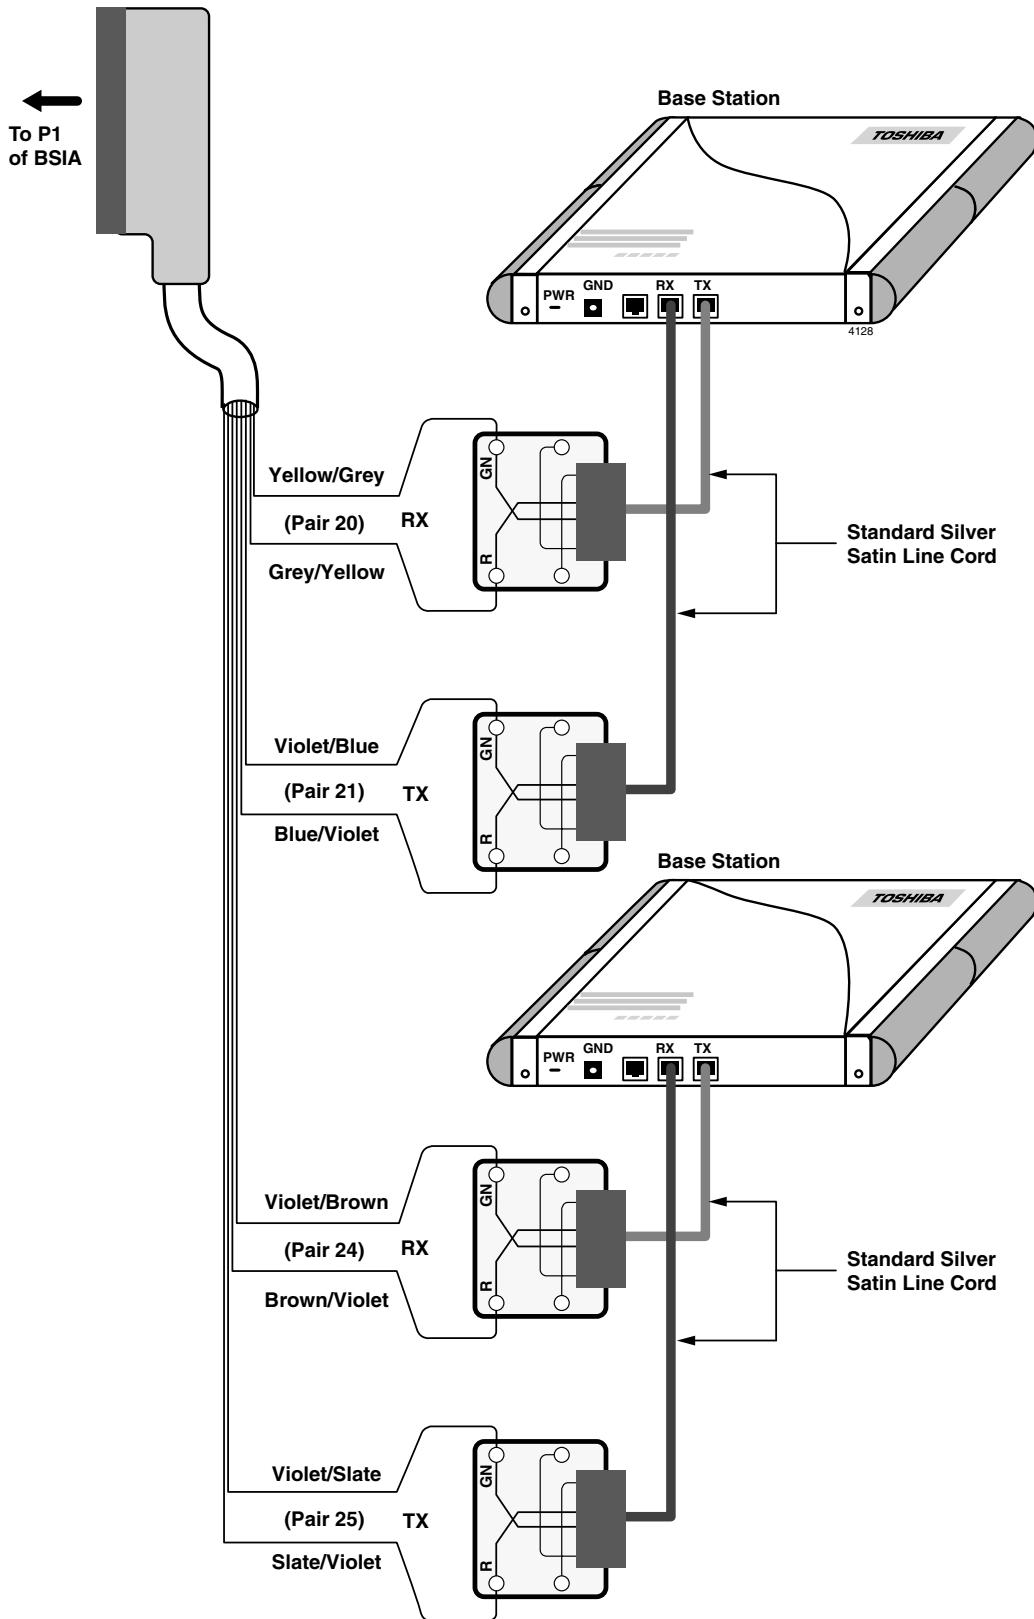

Figure 19 Base Station to BSIA Wiring Diagram
2. Use Category 5 cable. Using a mix of Categories 2, 3, 4, and 5 is acceptable, but can affect the total possible cable length. See Figure 19 on Page 22 for the wiring diagram.